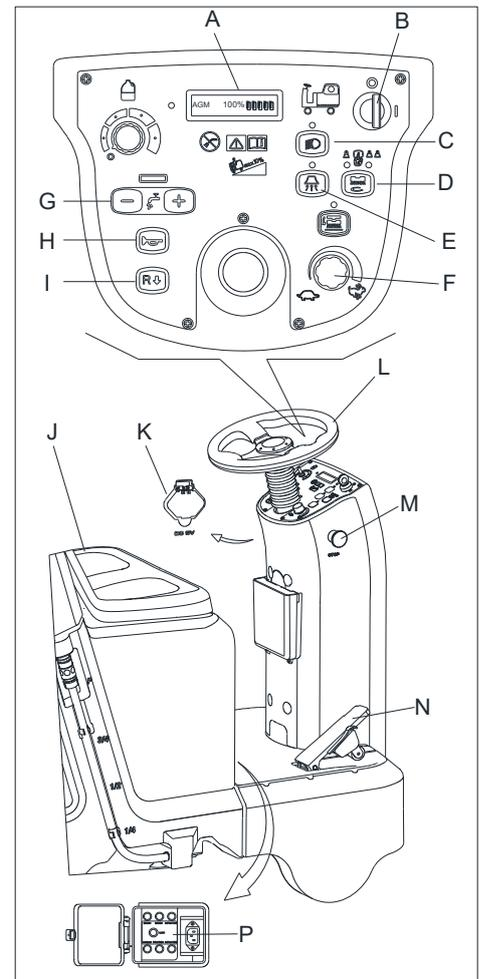

Figure 12
2. Sit on the seat (J, Figure 12), insert the key switch (B) and turn it to “I”. If the LCD (A, Figure 12) is 100%, the batteries are fully charged for use. If the LCD (A, Figure 12) is 10%, batteries must be charged before operation. [Refer to MAINTENANCE chapters for batteries charging]
3. Press One-Start button (D, Figure 12) to start the machine, the squeegee and brushes are released to the floor automatically, vacuum motor begins to work.
4. Depress the accelerate pedal (N Figure 12), operate the machine forward or backward by steering wheel (L Figure 12) together with forward-backward switch (I Figure 12), you can adjust speed by speed adjusting knob (F Figure 12).
5. Adjust solution flow by solution adjusting button (G Figure 12) base on cleaning requirement.
6. You can charge your phone or pad through USB charging port (K Figure 12) when the key switch (A Figure 12) is turned to “ON”.
7. Press the horn button (H Figure 12) to warn people when necessary.
8. If necessary, press the emergency button (M Figure 12) for machine emergency stop.
The brush motor, vacuum motor, drive motor and control circuit are protected by overload protector (P Figure 12). When the overload protector trip, do not reset it immediately without finding out the root cause, and make sure the motor is cooling-off before reset.
9. Loosen the accelerate pedal (N, Figure 12), the machine stops running.
10. Press One-Start button (D, Figure 12) to stop brushes and vacuum motor. The brushes and squeegee are lifted up from the floor automatically. The vacuum system is closed after a few seconds delay.